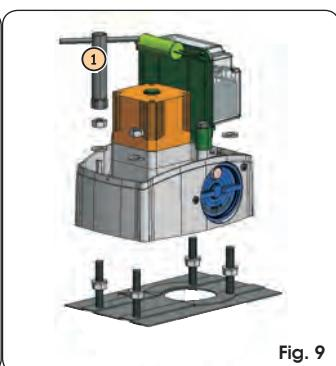

Fig. 9
- Place the operator on the plate, using the supplied washers and nuts as shown in Fig. 9, and the supplied tube wrench (Fig. 9 ref. ①).